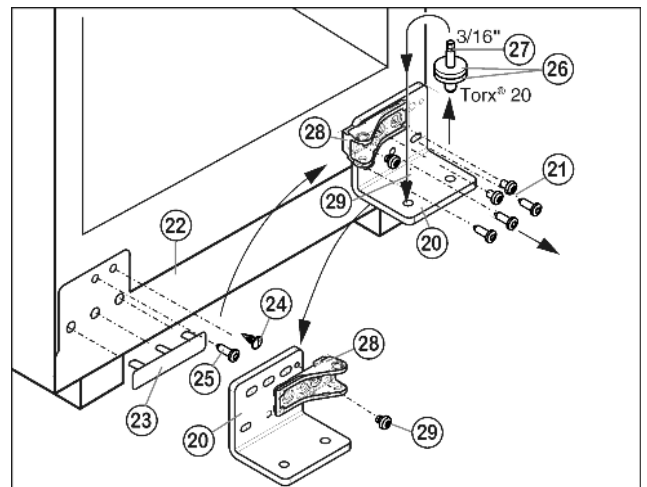

Fig. 21
▶ Unscrew bearing bracket *Fig. 21 (20)* together with bearing pin *Fig. 21 (27)*(3 x Torx 25) *Fig. 21 (21)*. When doing so, hold panel *Fig. 21 (22)* steady so that it does not drop.
▶ Carefully lift off the cover on the handle side *Fig. 21 (23)* and the plug *Fig. 21 (24)* and move them to the opposite side.
▶ Unscrew screw *Fig. 21 (25)* and move it to the opposite side. When doing so, hold panel steady so that it does not drop.
- ▶ Unscrew bearing part *Fig. 21 (28)*, turn it 180° and tighten *Fig. 21 (29)*.
- ▶ Remove the bearing pin *Fig. 21 (27)*, move it to the other side along with the bearing disc and bearing ring *Fig. 21 (26)* and secure **tightly to 3 lb-ft (4 Nm)**.
- ▶ Using a cordless screwdriver if necessary, tightly secure *Fig. 21 (21)* the bearing bracket *Fig. 21 (20)* on the new hinge side again **by applying a screw torque of 3 lb-ft (4 Nm)**. First fit the lower center screw, then the other screws.
- ▶ Ensure that the bearing discs *Fig. 21 (26)* are on the lower bearing pin *Fig. 21 (27)*.
- ▶ Position the door from above onto the bearing pins below *Fig. 21 (27)*.
- ▶ Unscrew center screw on lower part of bearing bracket Fig. 21 (20).
- ▶ Align the doors flush with the appliance housing using the two oblong holes in the lower bearing bracket Fig. 21 (20) as a guide if needed.